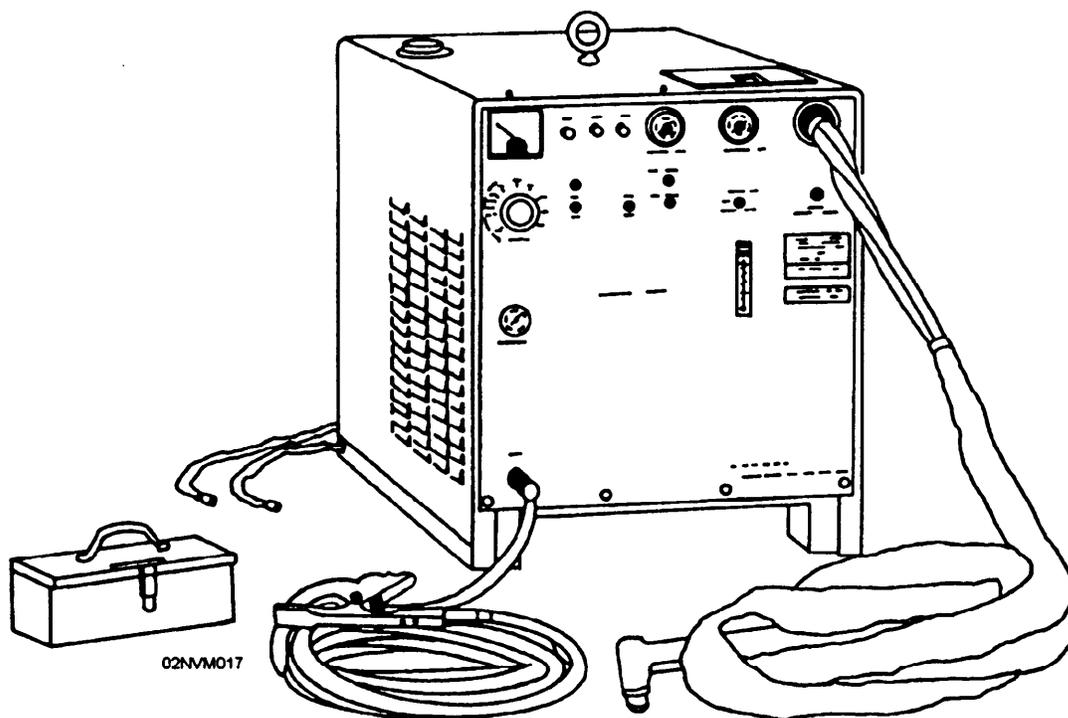

Figure 13-37.—Plasma arc cutting equipment.
**PLASMA ARC EQUIPMENT.**—The equipment used for plasma arc cutting is similar to a gas tungsten arc welding (GTAW) unit. The plasma arc cutting unit has four basic components: the control panel, torch, torch leads, and gas supply. Figure 13-37 shows a typical setup for the control panel and torch.